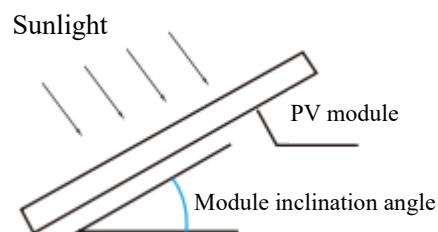

Fig. 1 Schematic Diagram of Installation Inclination Angle of PV Module
- The installation angle of the PV module refers to the angle between the PV module surface and the ground plane, as shown in Figure 1. The maximum power output is obtained when the PV module is directly facing the sun.